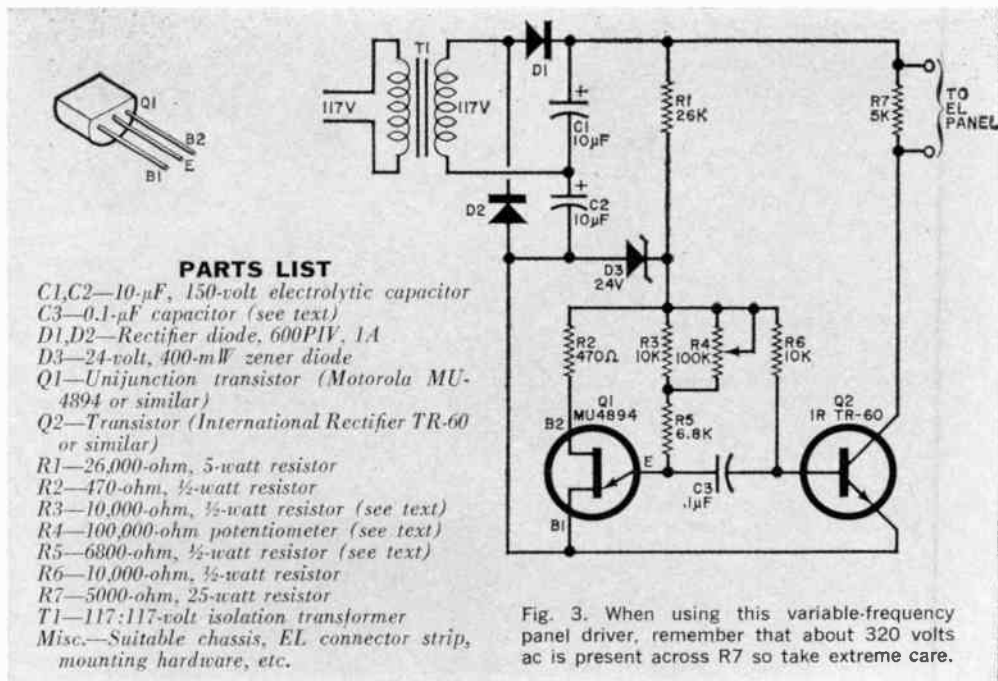

Fig. 3. When using this variable-frequency panel driver, remember that about 320 volts ac is present across R7 so take extreme care.
**Building an EL Power Supply.** To see more clearly how electroluminescence works, it is helpful to build a small variable frequency power supply. This can be done in one of two ways. A schematic for the first supply is shown in Fig. 3. In this circuit, D1, D2, C1, and C2 form a voltage doubler having a dc output of about 320 volts. (Ripple is not im-